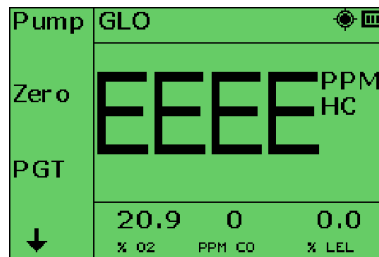

Figure 53: Over-range in GLO
- In Gas Leak Indoor, Gas Leak Outdoor and Search modes if the PPM sensor is exposed to a gas reading above 10,000 ppm and no autoranging for the flammable range is enabled, EEEE flag will appear as shown in Figure 53: Over-range in GLO.